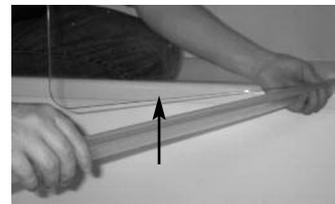
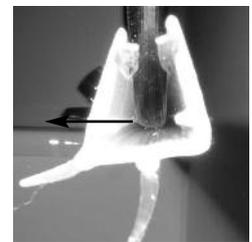

Figure a9
Figure a9i
9. Push the Bottom Seal (I) completely onto the Glass Screen (B) (**Figure a9**). Ensure the small deflector strip on the Bottom Seal faces inwards towards the Bath (**Figure a9i**). This will enable water to be deflected into your Bath whilst using the shower. Once the Bottom Seal is in place cut to length ensuring the seal does not exceed the length of the Curved Bath Screen.
8	Ensure the deflector strip on the Bottom Seal faces inwards towards the bath (Figure a9i).